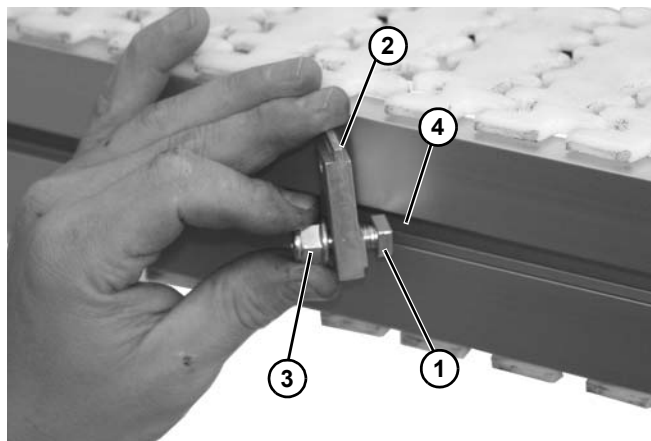

Figure 73
1. Install stud (Figure 73, item 1) onto retaining clip (Figure 73, item 2) with nut (Figure 73, item 3).
2. Install stud (Figure 73, item 1) into side rail channel (Figure 73, item 4). The end clips should be no greater than 12" from end of the conveyor.